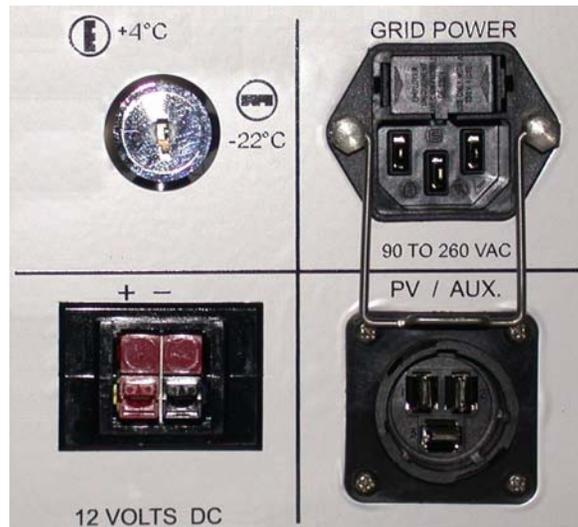
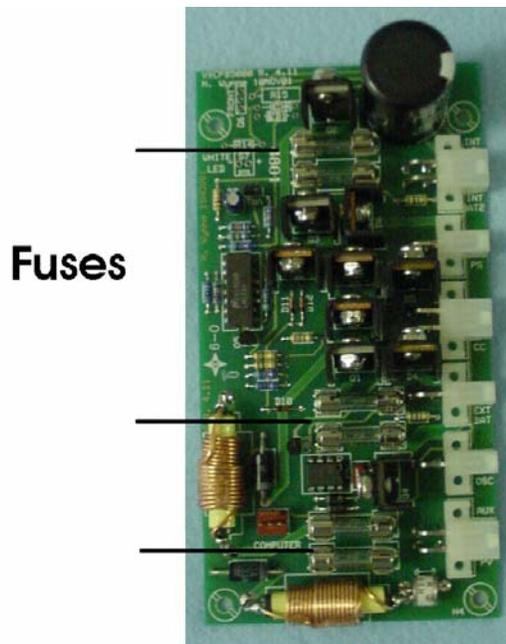

Figure 4. Power Input Panel with Key Switch
Figure 9. Location of Fuses
- The power input panel has three different connectors (See Figure 4.):
The power input panel with the key switch is shown in Figure 4. The connectors for the various power sources are clearly marked on the Power Input Panel. The receptacle for the “GRID POWER” (AC input power) has a fuse holder above the plug. The wire frame hanging from the connector is used to hold the electrical cord in place making it difficult to accidentally disconnect the unit.
The system is protected from excessive currents by a series of fuses. The first set of fuses is located within the input receptacle for AC current shown in the upper right corner of Figure 4. **Depending on the model of the input receptacle, one or two fuses are required.** The fuse rating is 3 amps, 250 V (5x20 mm size). The remaining six fuses (10 amp, 250 V 5x20 mm size) are located on the power board as shown in Figure 9. These fuses are accessible by removing the compressor and electronics cover at the rear of the unit.
The connector on the end of the solar panel cable will only fit into the PV/AUX connector on the power input panel of the AX27L (Figure 4, page 9). It cannot be mated accidentally to any other connector on the AX27L.